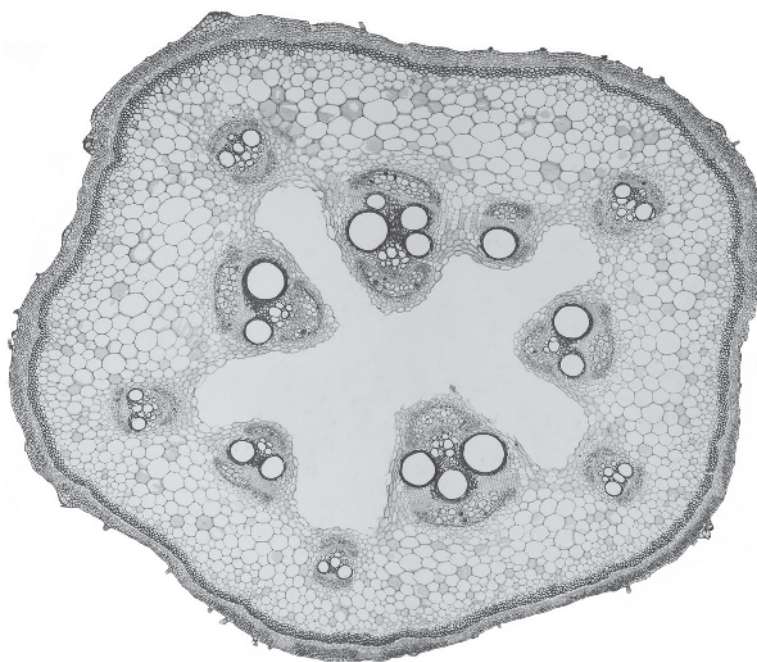
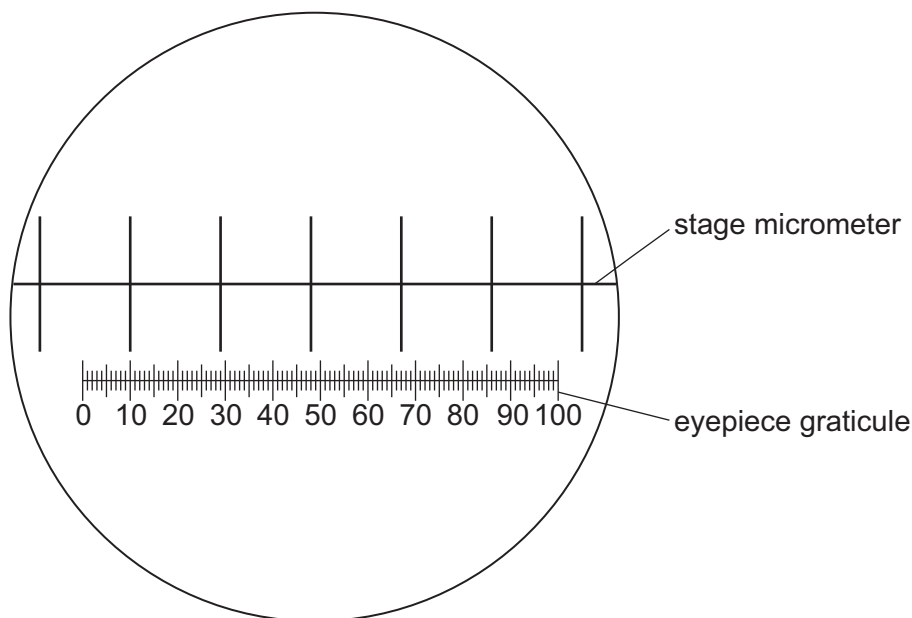
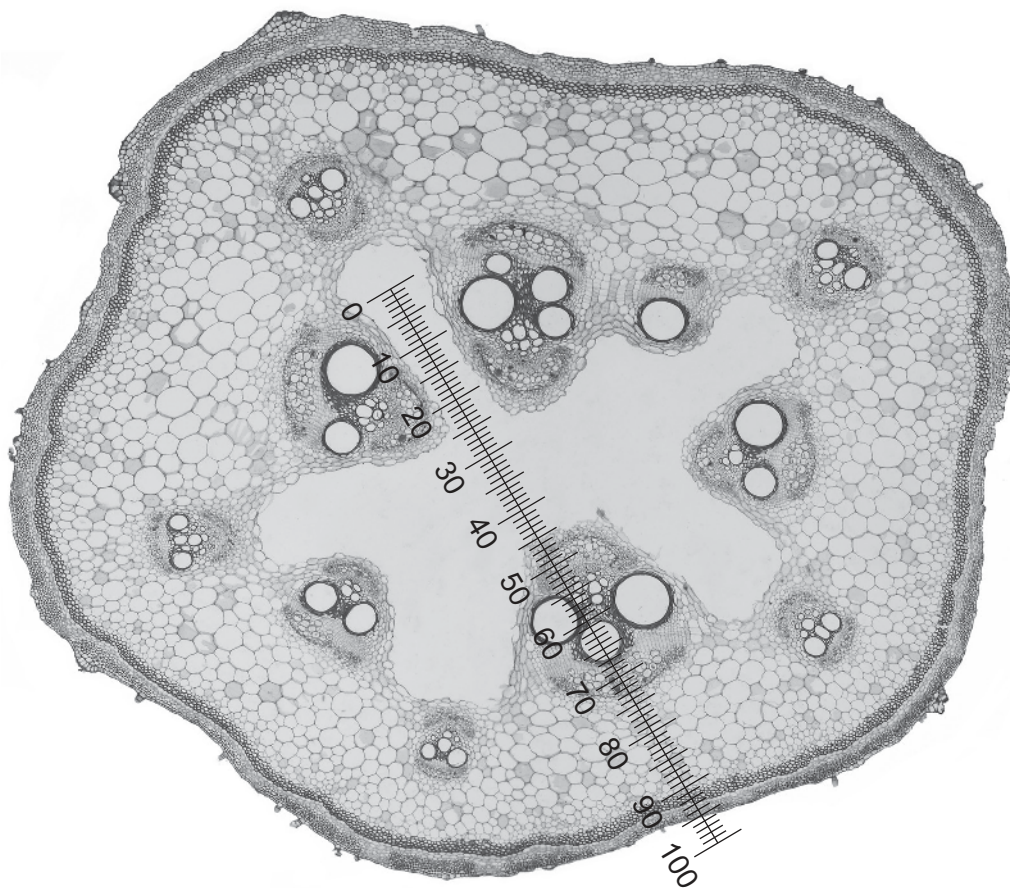

Fig. 2.2
Fig. 2.3
Fig. 2.4
- (b) Fig. 2.2 is a photomicrograph of a stained transverse section of a stem from a different plant to **M1**.
Identify **three** observable differences, other than colour, between the stem section on **M1** and the stem section in Fig. 2.2.
- (c) Fig. 2.3 shows a photomicrograph of a stage micrometer scale that is being used to calibrate an eyepiece graticule.
The length of one division on the stage micrometer in Fig. 2.3 is 1.0 mm.
- (i) Calculate the actual length of one eyepiece graticule unit shown in Fig. 2.3.
- (ii) Fig. 2.4 is the same photomicrograph as that shown in Fig. 2.2. This was taken with the same microscope and the same lenses used to take the photomicrograph in Fig. 2.3.
Use the calibration of the eyepiece graticule unit from (c)(i) to calculate the actual length of the vascular bundle in Fig. 2.4.